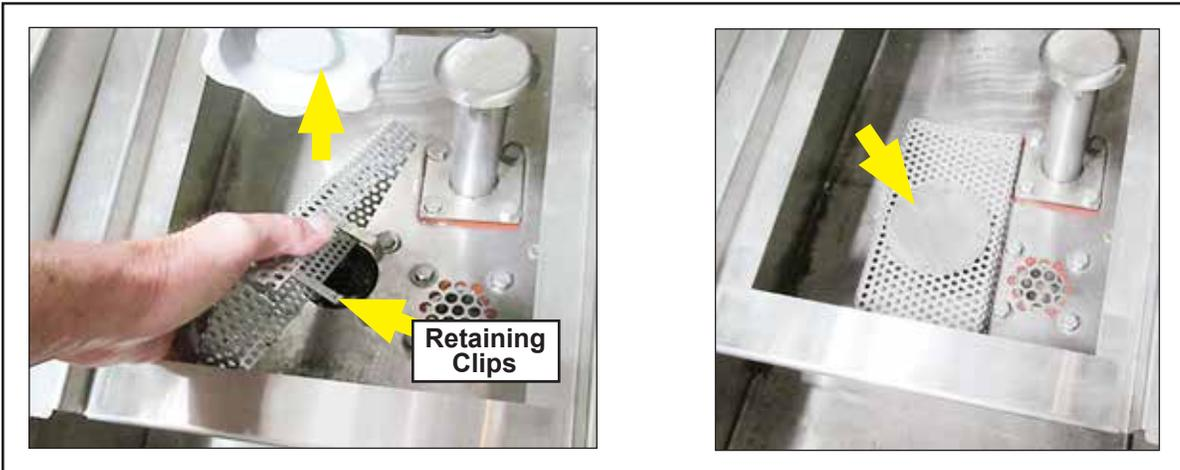

Fig. 83 -
- 1 Make sure pump suction strainer is installed in bottom of tank. The strainer has retaining clips to secure it in place Fig. 83.